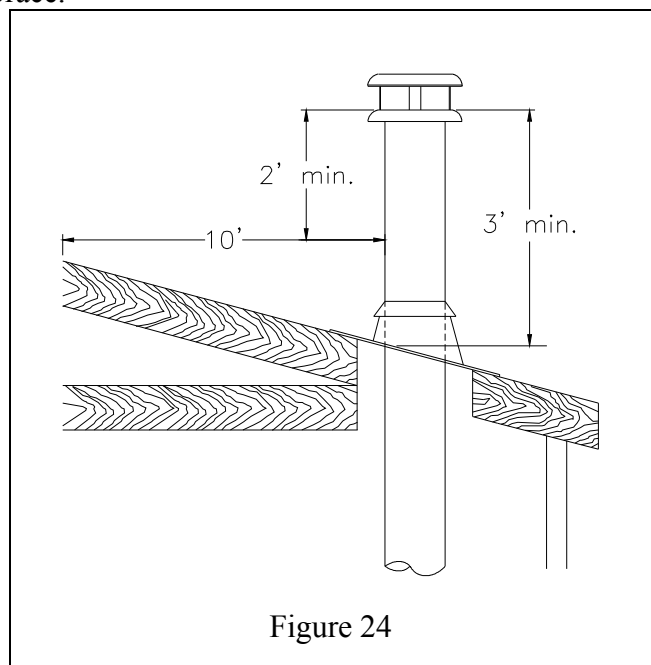

Figure 24
6. The chimney must extend at least 3 ft. (915 mm) above its point of contact with the roof and at least 2 ft. (610 mm) higher than any wall, roof or building within 10 ft. (3m) of it (Figure 24).